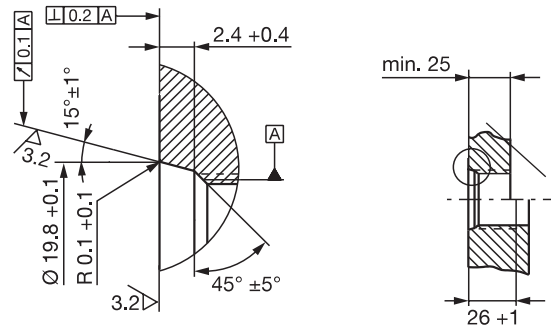
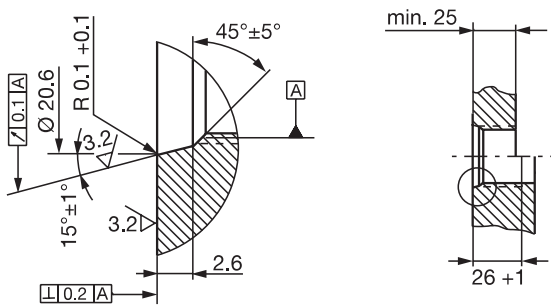

Fig. 4-3: Mounting hole M18x1.5 per ISO 6149 O-ring 15.4x2.1
Fig. 4-4: Mounting hole 3/4"-16UNF per SAE J475 O-ring 15.3x2.4
Fitting bore: The mounting surface of the BTL housing must make full contact with the supporting surface. A suitable O-ring must completely seal the bore, i.e. the countersink for the O-ring must be produced in accordance with Figures 4-3 and 4-4.
- ▶ Make a mounting hole with thread (possibly with countersink for the O-ring) acc. to Fig. 4-3 or Fig. 4-4.